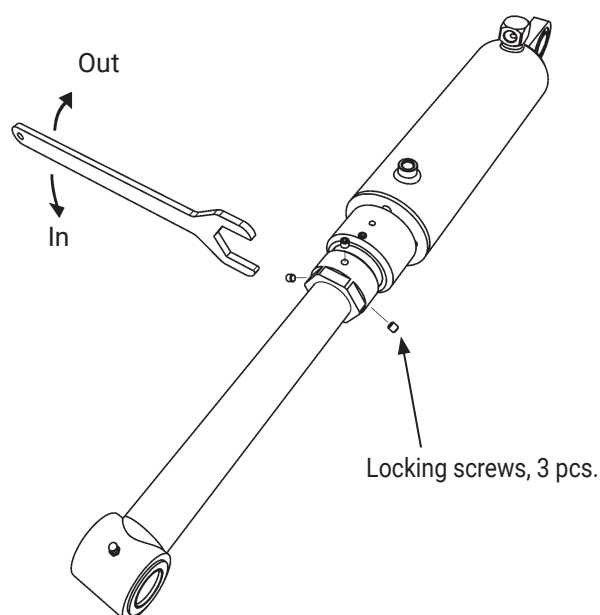

Figure 30. Adjusting the tilt angle
5. Undo the three locking screws on the other tilt cylinder. Figure 30.
6. Turn the adjuster sleeve until the tilt cylinder aligns with the platform attachment point. See Figure 30.